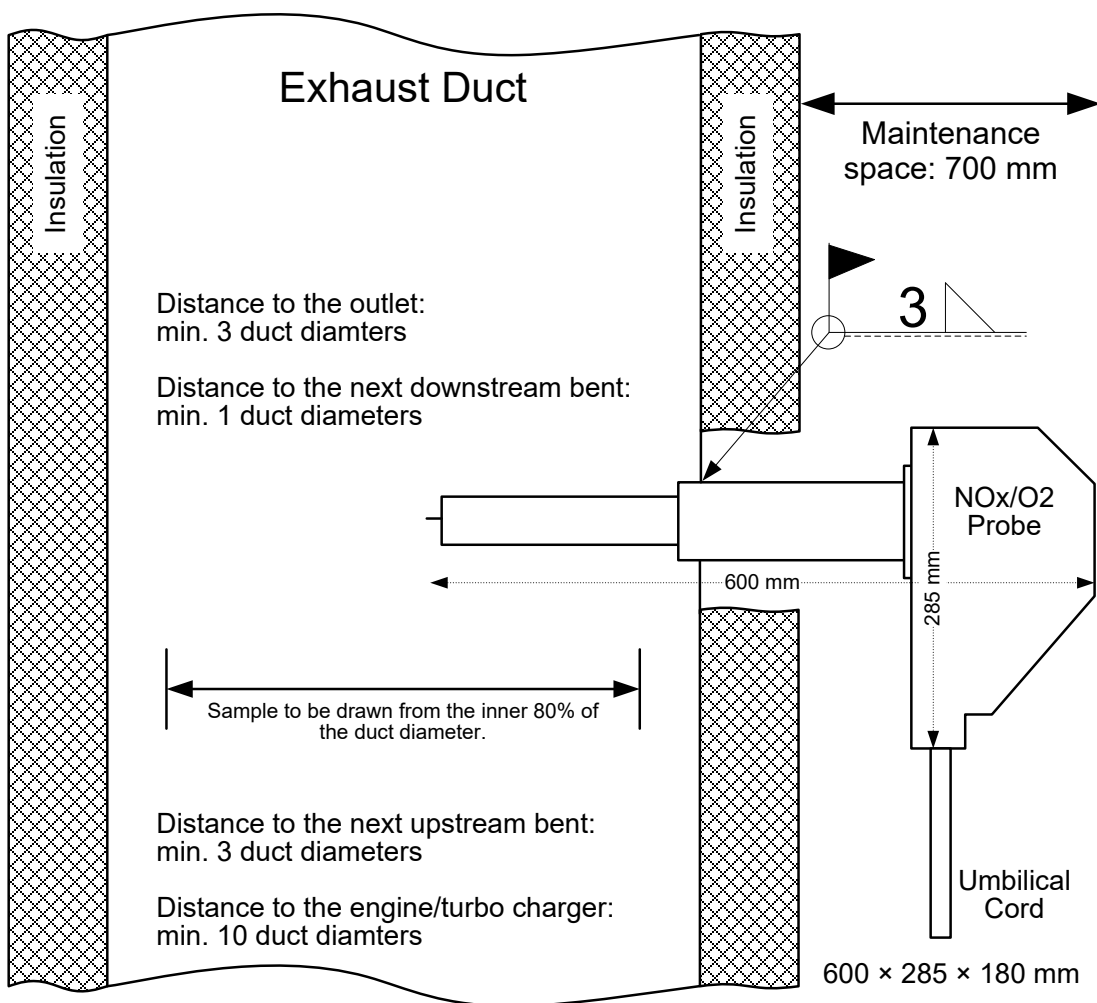
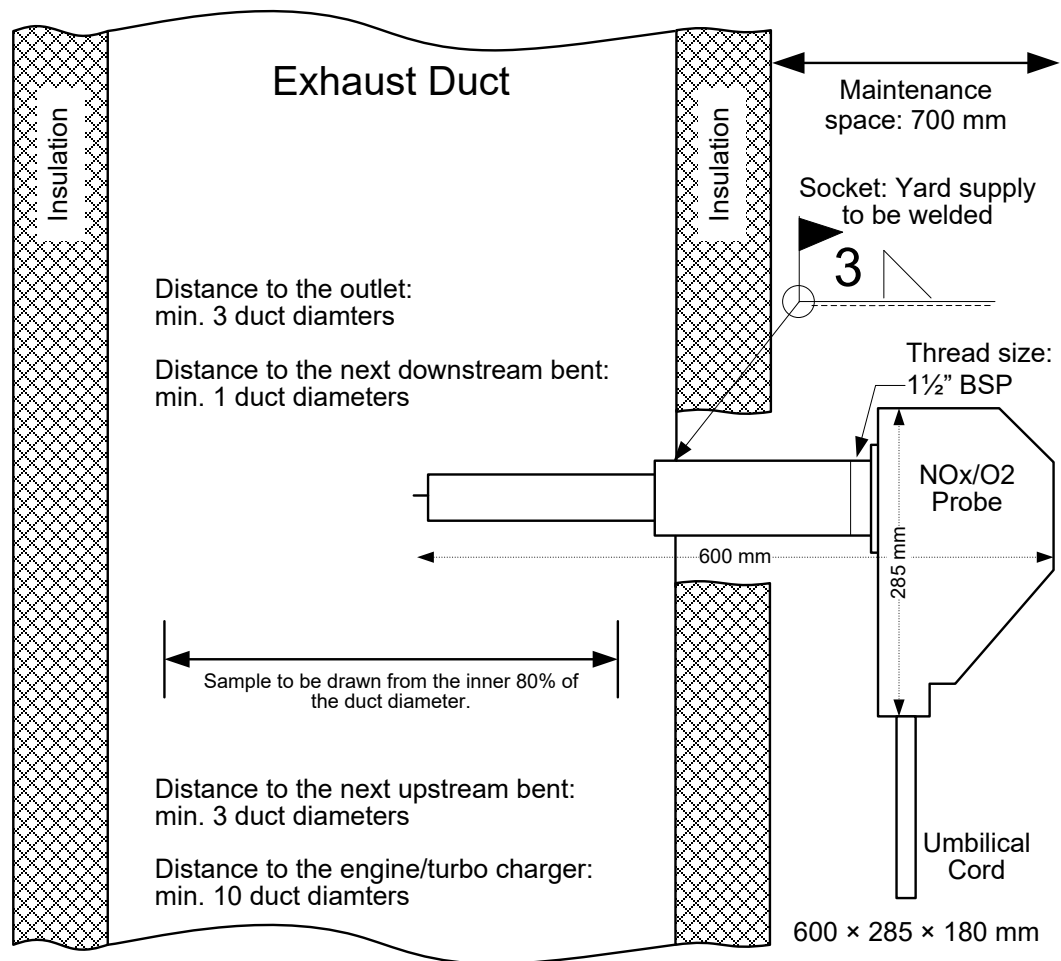

Figure 3-1: Installation layout of the diffusion probe – welding type
Figure 3-2: Installation layout of the diffusion probe – thread type
-  The probe shall be fitted at least 10 pipe diameters after the outlet of the engine, the turbocharger, or the last after-treatment device – choose whichever is further downstream. However, the probe shall also be placed at least 0.5 m or 3 pipe diameters upstream from the exit of the exhaust gas system – choose what provides the greatest length. See Figure 3-1 and Figure 3-2 for the installation layout of the probe. If you find it difficult estimating where to install the probe, please contact Green Instruments A/S for more instructions.
When mounting the probe on the stack, make sure that the back plate of the probe is mounted with the sampling hose connection facing down and the probe protection house mounted in a vertical position of the stack. Please see Figure 3-1 and Figure 3-2 for the installation of the probes.